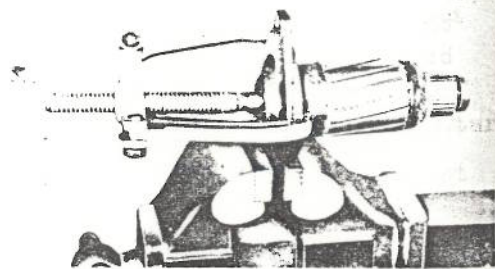

Fig. 10-47
- (5) Remove the pulley nut and then remove the pulley.
- (6) Remove the key and then dismount the front cover from the armature shaft with the aid of puller or press machine. (See Fig. 10-47)